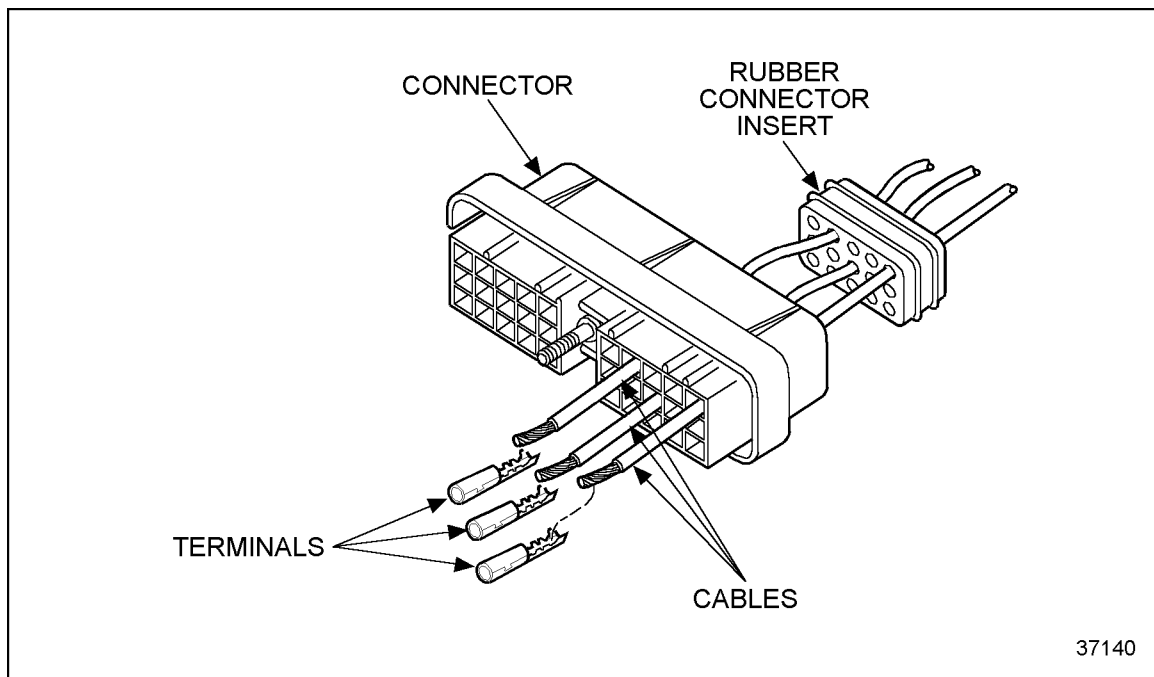

Figure 3-44 Wire Inserted Through the Connector
1. Insert the wire through the appropriate connector hole/cavity (see Figure 3-44).
2. Remove the insulation from the end of the cable, exposing a sufficient amount of core leads to be crimped by the terminal core wings (see Figure 3-44).